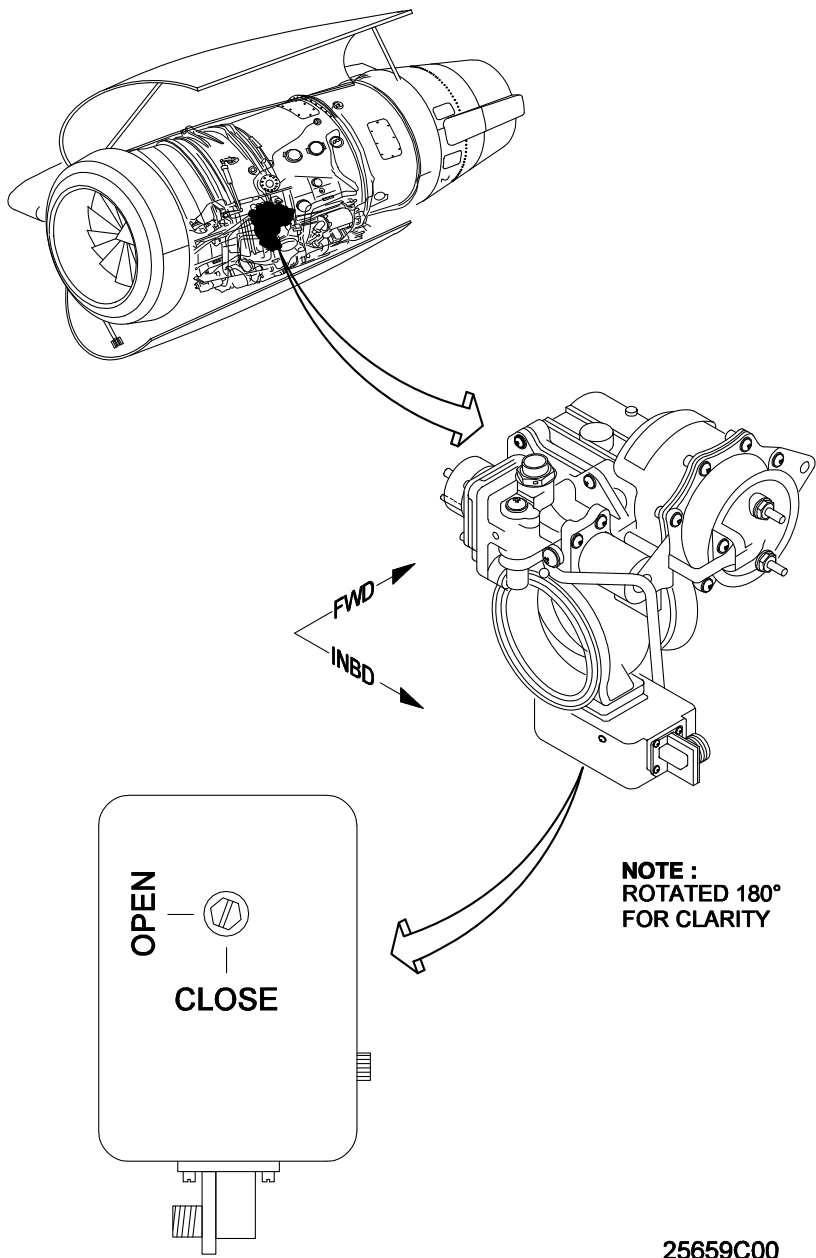

Figure 1: Rolls Royce Tay Engine Start Valve
- (1) Ensure airplane is safe for performing procedure.
- (2) Assess situation. See Start Valve Failure, page EC-19.
**C. Manual Operation of Start Valve (IGN and SVO Icons Displayed During First Start Attempt):** (See Figure 1)
- (1) Ensure all sources of air to bleed air manifold are removed.
- (2) Ensure L ENG START / R ENG START switches are OFF.
- (3) On appropriate engine cowl, open start-valve access panel.
- (4) Install socket, extension and breaker bar on start valve manual wrenching feature.
- (5) Rotate valve to OPEN and CLOSED indicated positions several times. Note any resistance or binding (other than normal 50 pounds spring tension). If binding is noted, rotate valve to open and closed positions until valve travel is smooth.
- (6) Ensure valve is in CLOSED indicated position.
- (7) Remove tools, check for presence of foreign objects then close engine cowl start-valve access panel.
- (8) Clear area of personnel and foreign objects.
- (9) Attempt normal engine start using QRH start procedure. If engine will not start, perform Paragraph 2.D.
**D. Manual Opening and Closing of Start Valve:** (See Figure 1)
**CAUTION:** CONTINUED USE OF THE STARTER IS LIMITED TO THREE (3) CRANK-CYCLES WITH A MAXIMUM OF THIRTY (30) SECONDS PER CYCLE. DELAY THREE (3) MINUTES BETWEEN START ATTEMPTS. AFTER THREE (3) CYCLES, DELAY USE OF THE STARTER FOR AT LEAST FIFTEEN (15) MINUTES.
- (1) Position one crewmember in cockpit to perform engine start and direct opening and closing of valve.
- (2) Establish communication between cockpit crewmember and outside crewmember.
- (3) Start opposite engine using normal AFM procedures.